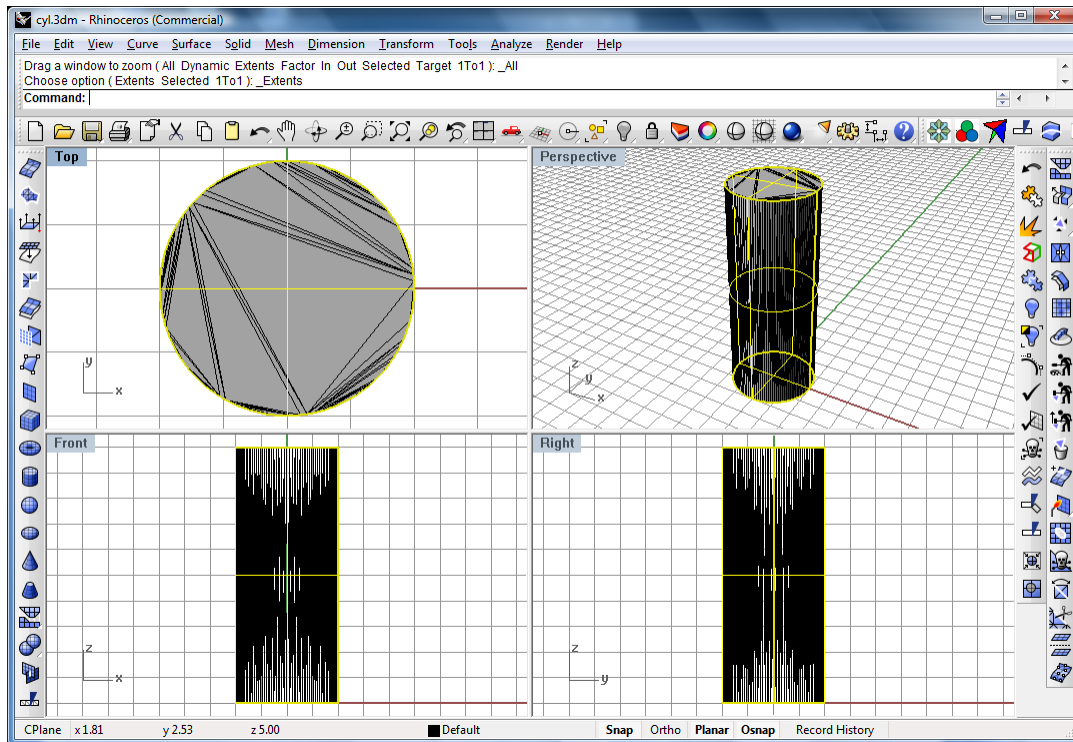

Figure 32: Original highlighted cylindrical surface and the newly-created surface mesh superimposed on it.
5. In the simplified dialog box, move the slider all the way to the right towards **More Polygons** and click on **Preview** to see a preview of the resulting surface mesh. Click on **OK** to create a surface mesh (Figure 32).
6. While the original cylindrical surface is still highlighted (seen in light yellow in Figure 32), **_Hide** it to make only the surface mesh visible. The triangular surface mesh on your *Rhino* screen serves as input to the *Griddle* tools.